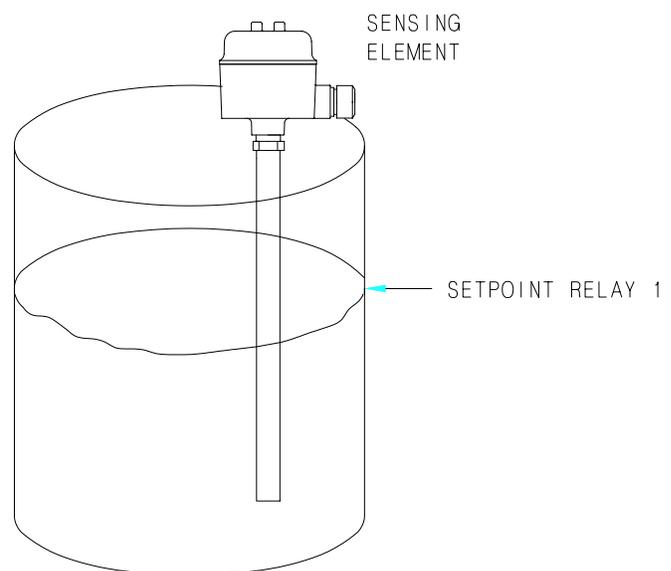

Figure 3-3
7. Raise the material to the level where the first relay is to activate. See Figure 3-3. If you cannot raise or lower the level in your vessel, go to section 3.3 for an alternative calibration method.